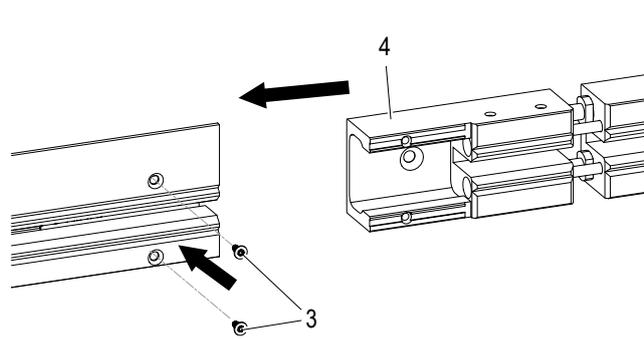

Fig. 62: Mount expansion unit (1)
- Slide the expansion unit (4) onto the rail side with the line feed segment and tighten the 2 self-tapping screws M3 x 8 (3) with a tightening torque of 2.0 Nm and hexagon socket screw type (TorxPlus) TP10 (see Fig. 62). These screws (3) must be tightened (mechanically) using a torque shut-off screwdriver.